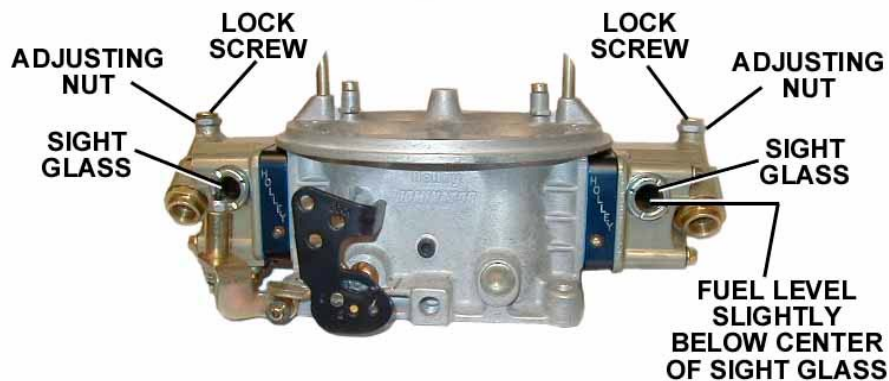

Figure 1
3. The fuel level in the clear sight glass should be mid-level to slightly below center for correct float adjustment. Most likely, this will not need to be adjusted. See Figure 1.